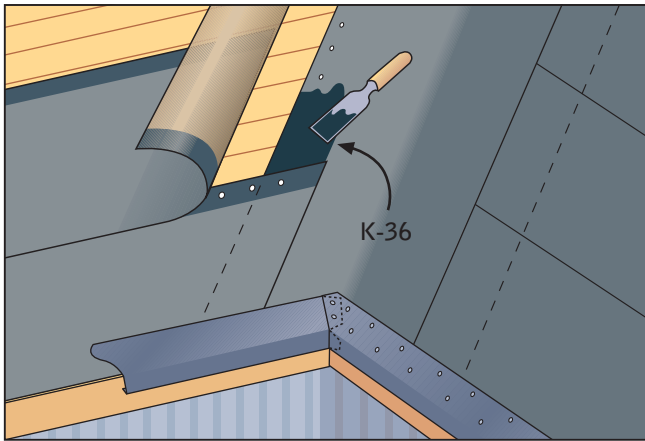

Fig. 2
- The installation of the underlay membrane starts from the valley (Fig. 2).
- The underlay membrane is installed directly on the deck boarding. The metal drip trims at the eaves are installed only on top of the underlay (Fig. 2).